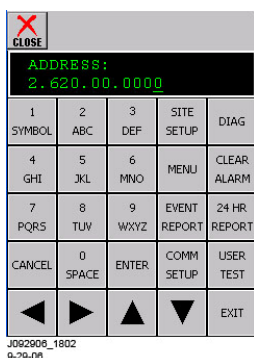

Figure 5: WAMS Office Address
- Press the down arrow to FIELD COMM, press ENTER. TX: waiting... RX: waiting will be displayed (Figure 6If site is to hop data to, or receive data from, another crossing. To send a test packet to the other crossing Press 4 Figure 5).